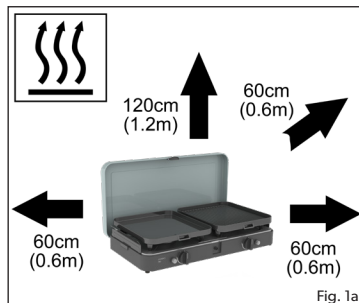

Fig. 1a
- This appliance must be kept away from flammable materials during use. Minimum safe distances are: Above the appliance 120cm. At the rear and sides 60cm. (fig 1a)